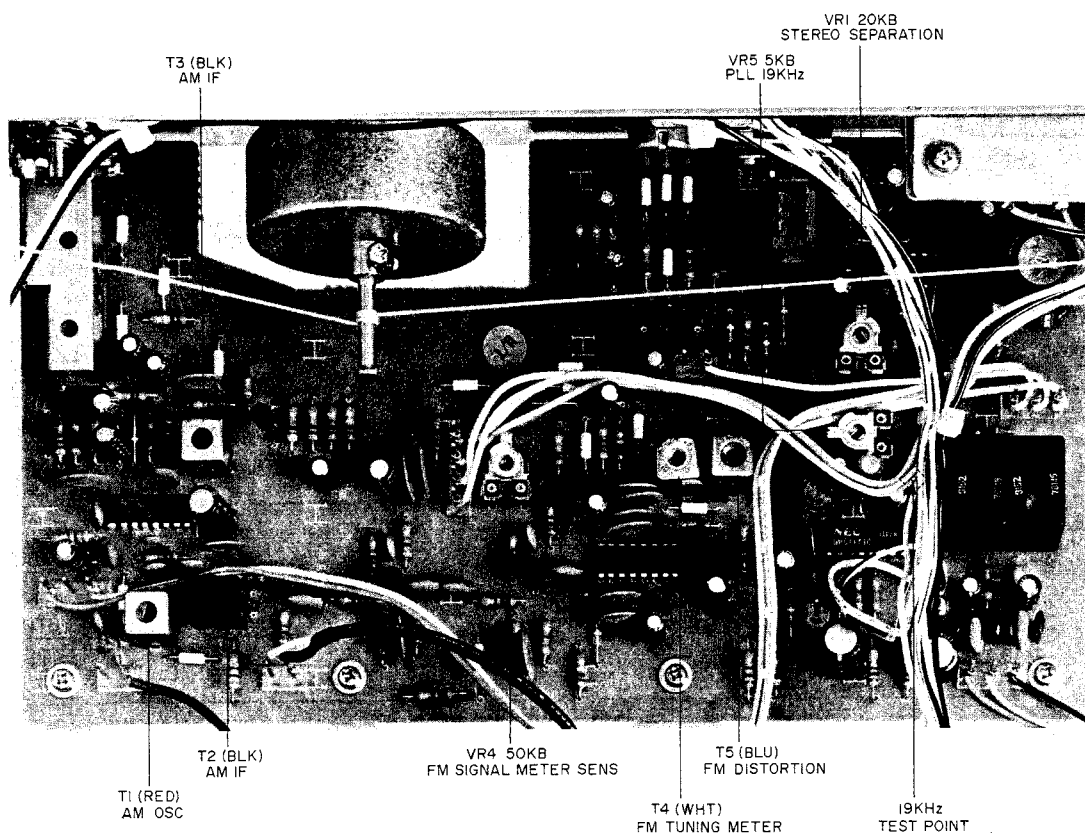

Fig. 19 Tuner P.C Board T3-4501A
1. FM TUNER SECTION ADJUSTMENT (Refer to Figs. 19, 20)
2. AM TUNER SECTION ADJUSTMENT (Refer to Figs. 19, 20)